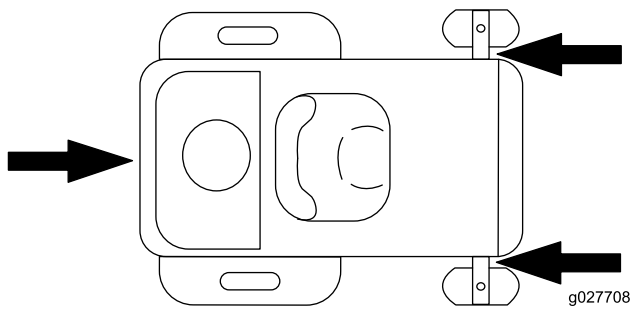

Figure 21
- Tie down the machine near the front caster wheels and the rear bumper (Figure 21).